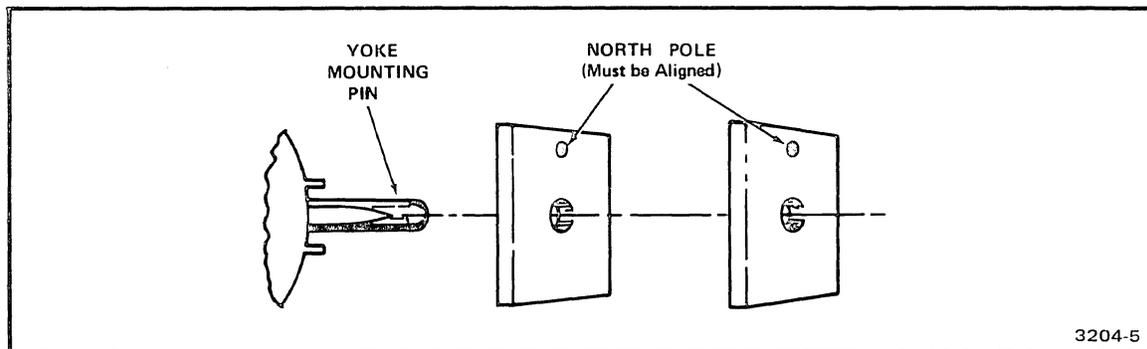

Figure 5-5. Installing a Second Yoke Magnet.
3. If the desired raster cannot be obtained, add a second magnet to the yoke mounting pin. Both magnets must be aligned as shown in Figure 5-5, then rotated simultaneously.